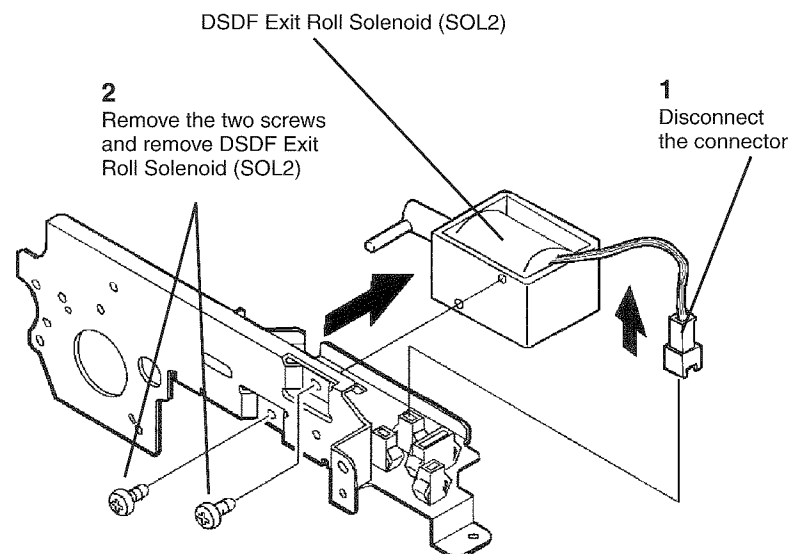

Figure 1 Removing the Exit Roll Solenoid (SOL2)
3. ( Figure 1): Remove the DSDF Exit Roll Solenoid (SOL2)